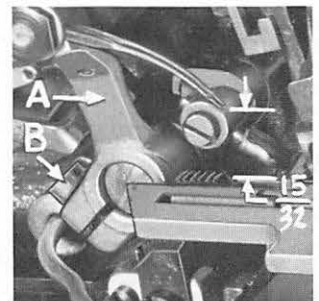

Fig. 3
With throat plate assembled in position, needles should center in the front end of needle slot. When needles are at high position, the needle points should be set $\frac{15}{32}$ inch above the throat plate (Fig. 3) for Style 39500 GC-045. For Style 39500 GB the needle points should be set $\frac{7}{16}$ inch above the throat plate. To align needle or set the height above the throat plate, move needle driving arm (A, Fig. 3) by loosening clamp screw (B). Remove throat plate.